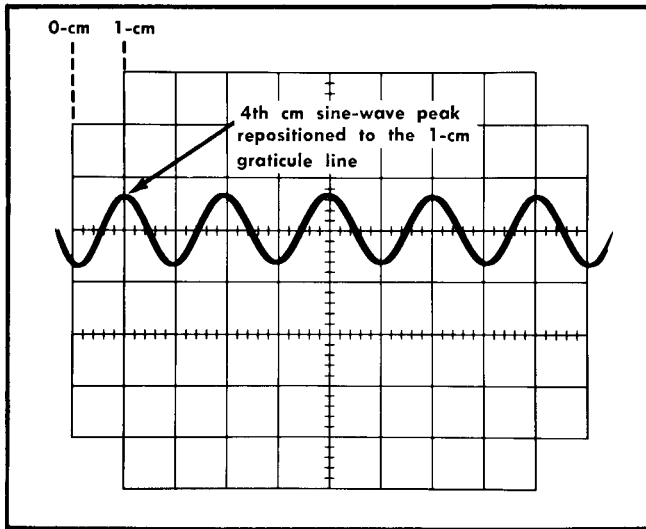

Fig. 5-7. Typical display showing 4th cm sine wave of Fig. 5-6 repositioned to the 1-cm graticule line, as in step 36 (l).
l. Adjust the A Triggering LEVEL control so a sine-wave peak (top or bottom) falls on the 4-cm graticule vertical line. Note that sine-wave peak and position it to the 1-cm graticule vertical line. (See Fig. 5-7.)
j. Adjust the B Triggering LEVEL control so a sine-wave peak (top or bottom) falls on the 4-cm graticule vertical line. Note the sine-wave peak and position it to the 1-cm graticule line. (Use Fig. 5-7 as a guide.)